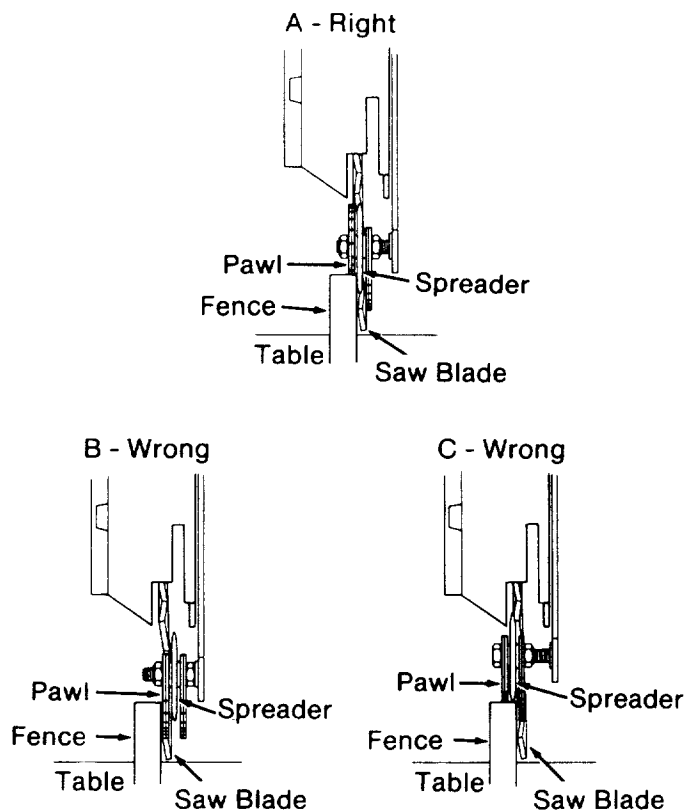

Fig. 105 - A,B,C
12. **If** the *spreader* and *blade* both rest against the *fence*, no adjustment is needed. (Figure 105-A) Go to step 17, or
**If** the *spreader* is in front of the *fence* but not touching it (Figure 105-B), go to step 13, or
**If** the *spreader* hits the top of the *fence* (Figure 105 - C), go to step 13.
1. Slide the *battery* into the opening behind the digital display with the angled corner on top (Figure 105)